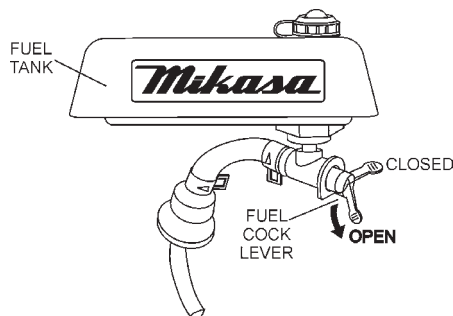

Figure 7. Fuel ShutOff Valve (Open)
1. Open the fuel shut-off valve by moving the fuel cock lever to the open position (Figure 7).